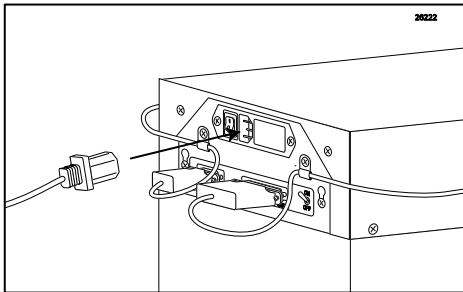

Figure 154
3. Connect the power cord to the port on the Electronics Board. (See Figure 154.)